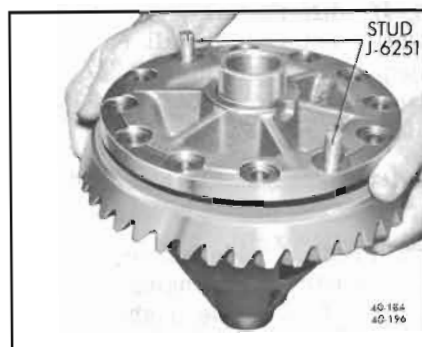

Figure 40-184—Installing Ring Gear on Differential Case
6. After making sure that mating surfaces of case and ring gear are clean and free of burrs, bolt ring gear to case using three Studs J-6251 to align parts. See Figure 40-184.